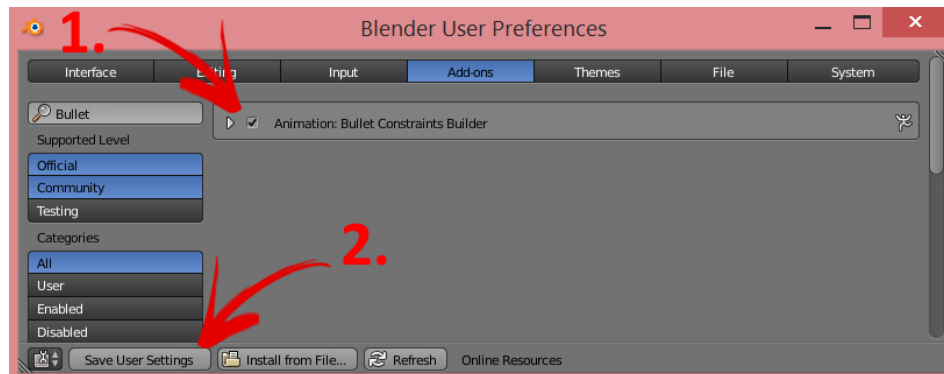

Figure 8
5. You can bring the script to the forefront by typing “Bullet” to the search field. Activate the script by checking the **check box (1)** and then click “**Save User Settings**” **(2)**. Close the User Preferences window, Figure 8.